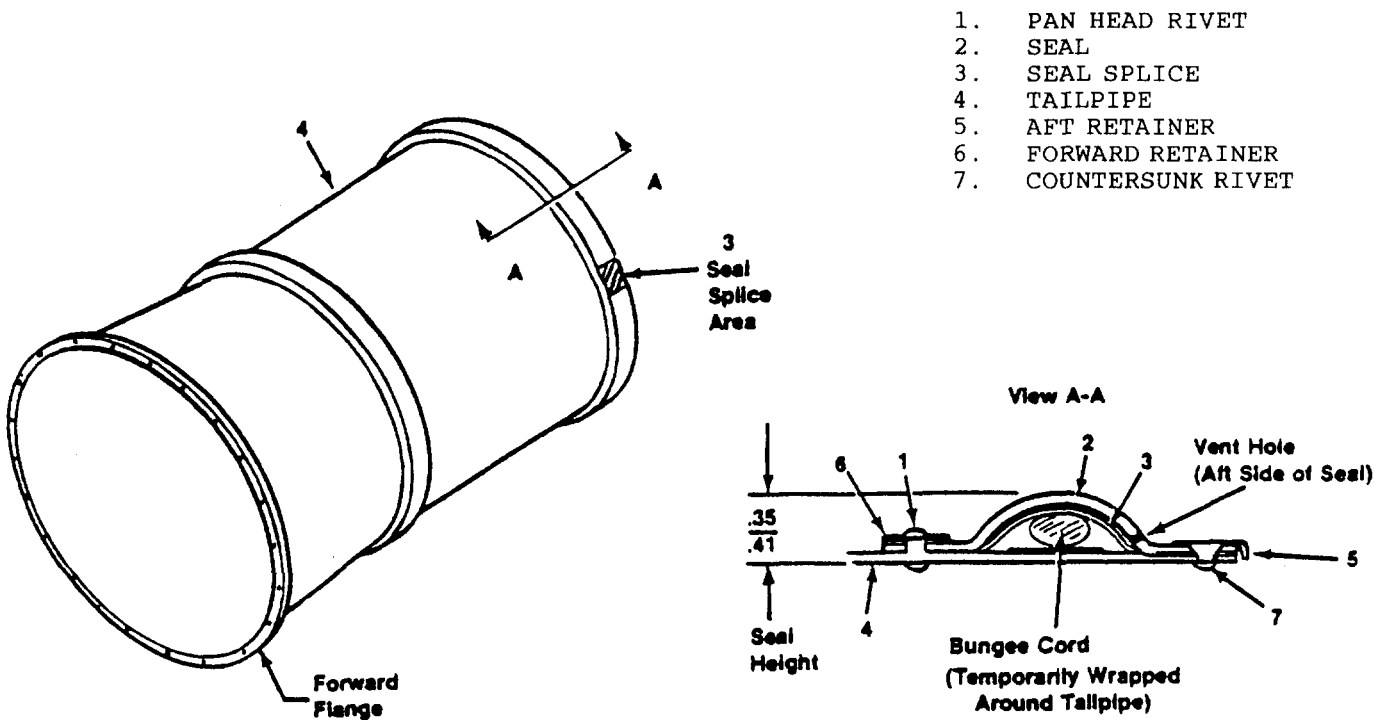

Figure 1 - Engine Tailpipe
1. Description. The engine tailpipe used on aircraft equipped with thrust reversers is modified by shortening the tailpipe and adding a pressure seal around the outside diameter at the aft end (see Figure 1). The tailpipe mounts to the aft flange of the fan frame interfaces with the thrust reverser tailpipe and blocker doors at the aft end.